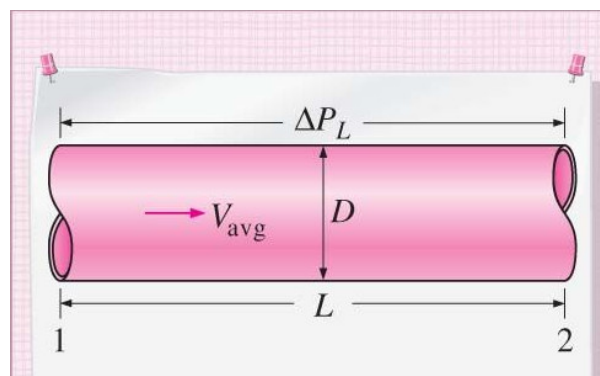

Figure 9
- (b) Pressure drop ΔP is an important quantity in designing piping system because it is directly related to the power requirement of pump or fan to maintain the flow. Using **Figure 9** as a reference, answer the questions below.
- (i) Define the pressure drop ΔP using the notations from **Figure 9**. Analyze the relation between pressure drop, average velocity of the flow and the volume flow rate for laminar flow in the pipe.